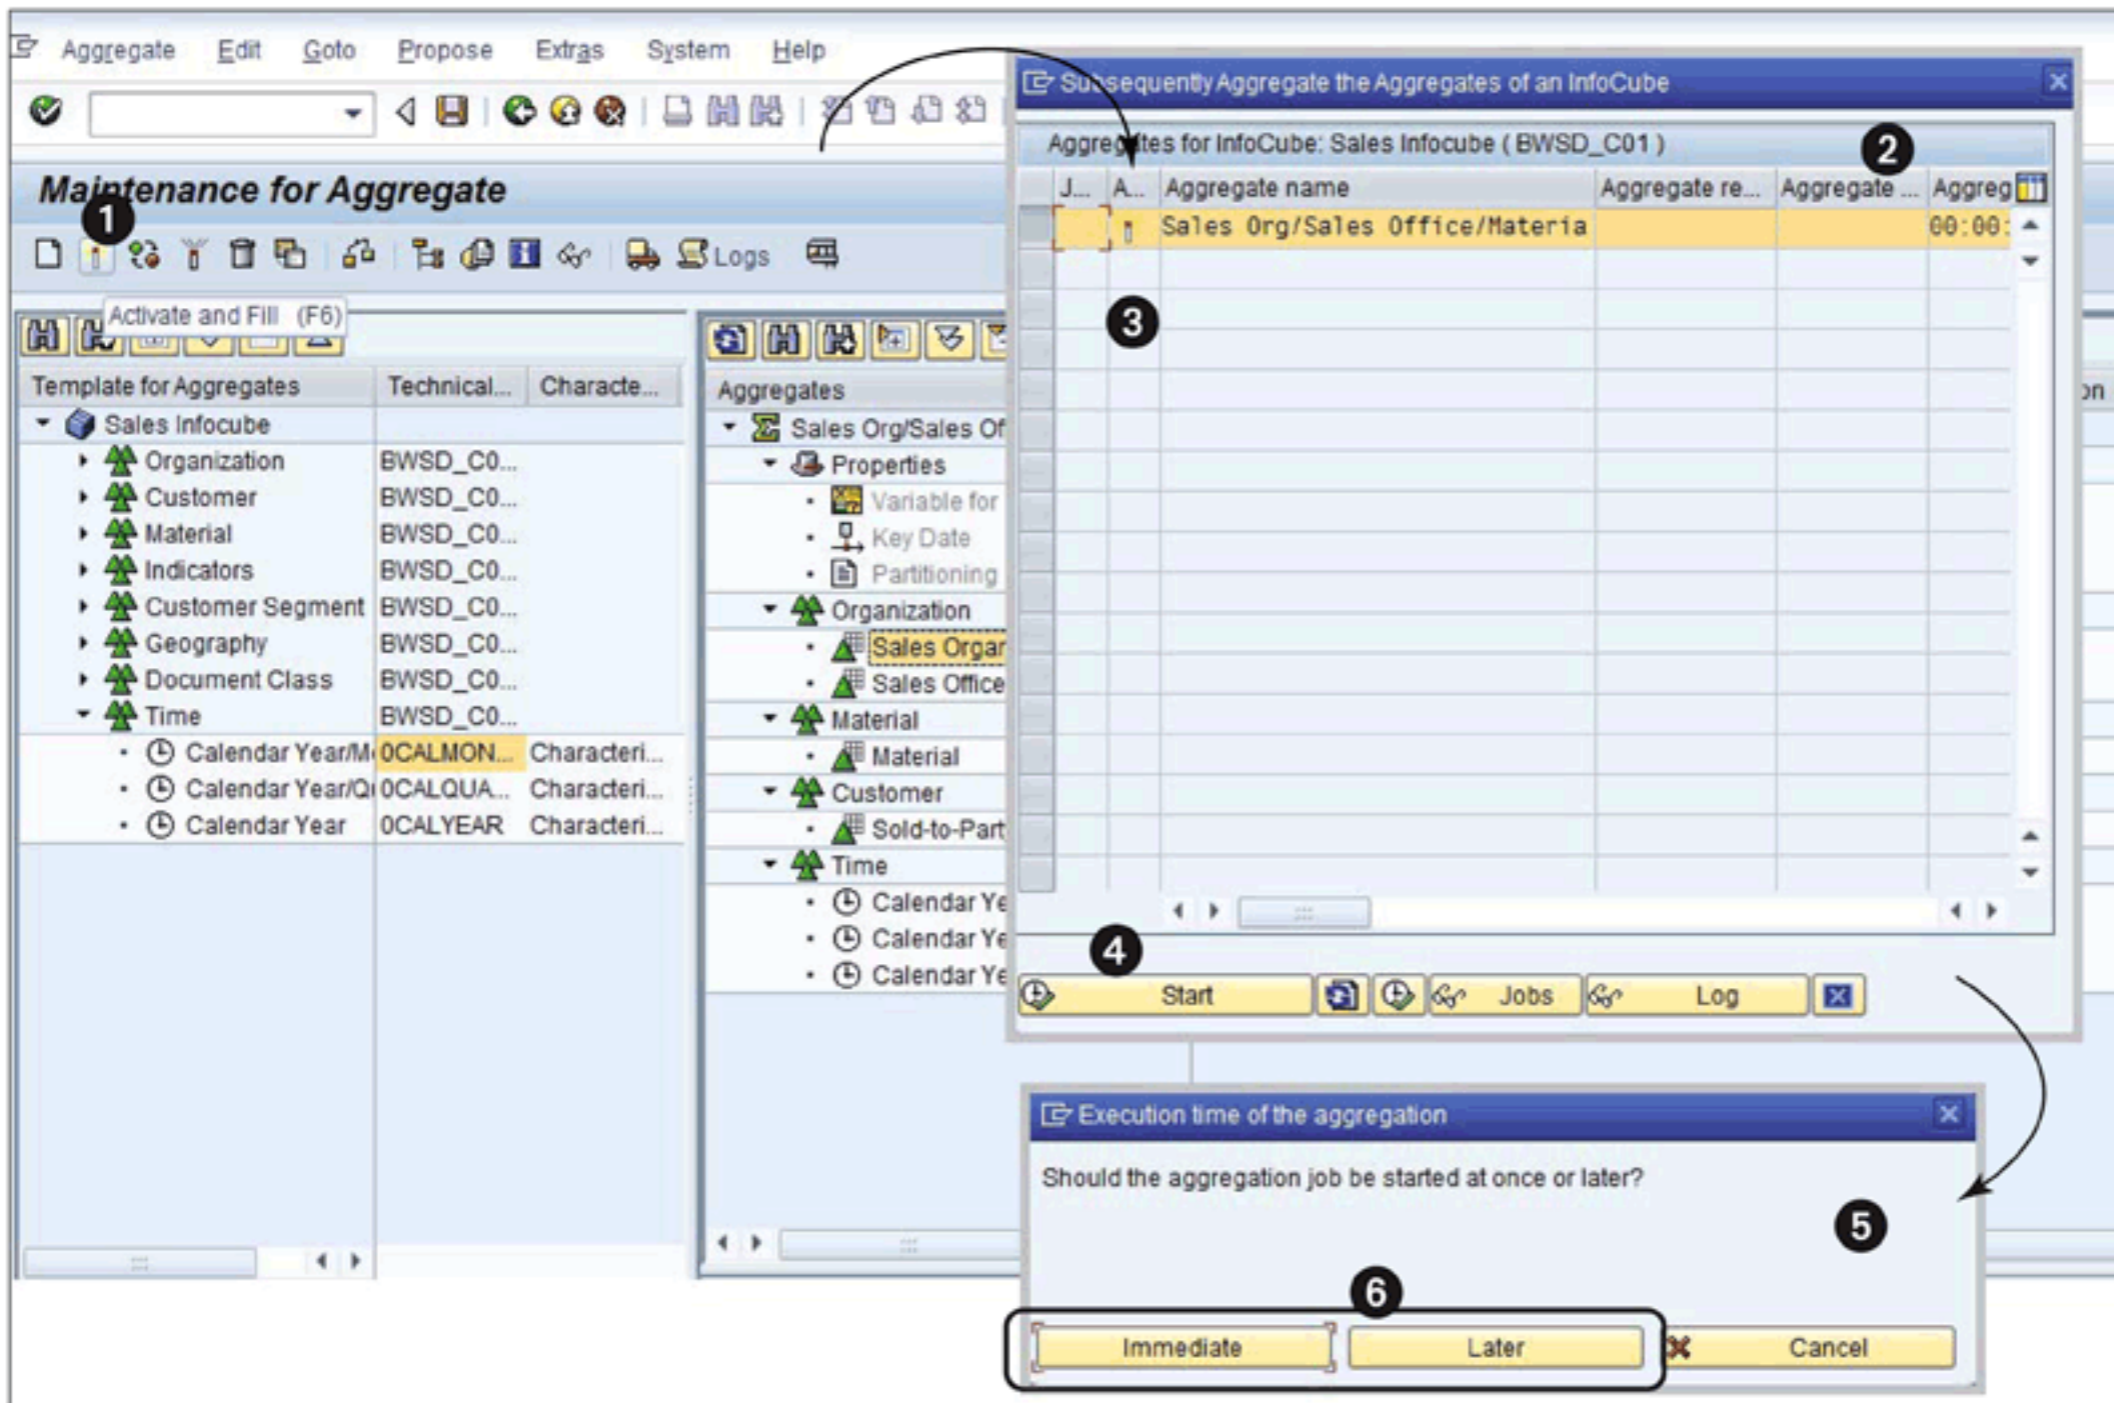

Figure 14.25 Activate an Aggregate
Activation of the aggregate fills the aggregate with data from the InfoCube. To do this, click on the aggregate on the right panel, and then click on the `ACTIVATE AND FILL` icon on the dynamic menu bar (1 of Figure 14.25). A pop-up box appears (2); place the cursor on the row with the text definition of the aggregate (3), and click on the `START` icon (4).